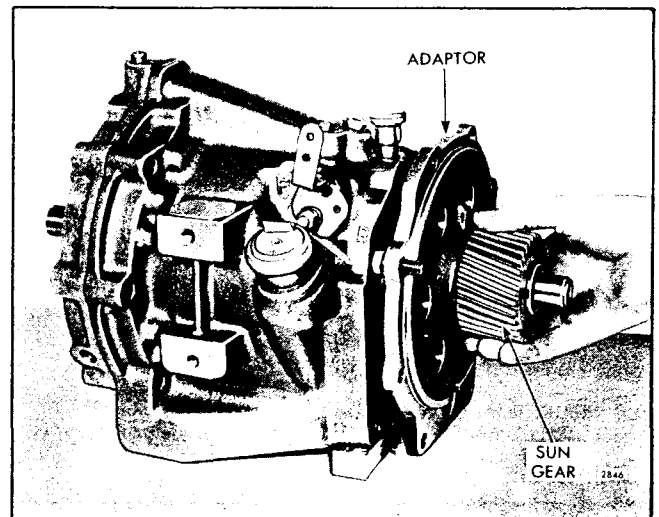

Fig. 16 - Removing or Installing Reduction Gear Adaptor and Sun Gear Assembly from/to Reverse Gear Housing (2.1:1 Ratio)
- b. Tap the forward face of the adaptor lightly with a plastic hammer to loosen the adaptor from the reverse gear housing, then slide the adaptor and sun gear assembly straight off of the reduction gear input shaft as shown in Fig. 16. Remove the gasket from the adaptor or the gear housing.